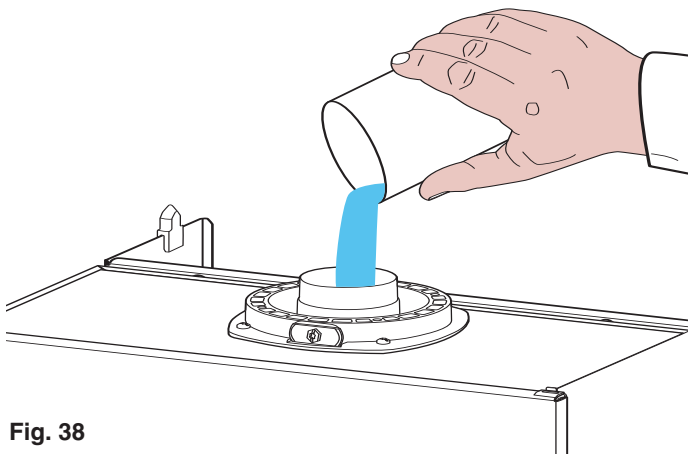

Fig. 38
2. **Fill the condensate trap with water, by pouring ½ litre of water into the exhaust flue connector (see Fig. 38). N.B. In the event of a prolonged period of system shutdown, the condensate trap should be filled before any renewed use. A shortage of water in the trap could possibly lead to a temporary leakage of fumes into the air, until it refills itself;**